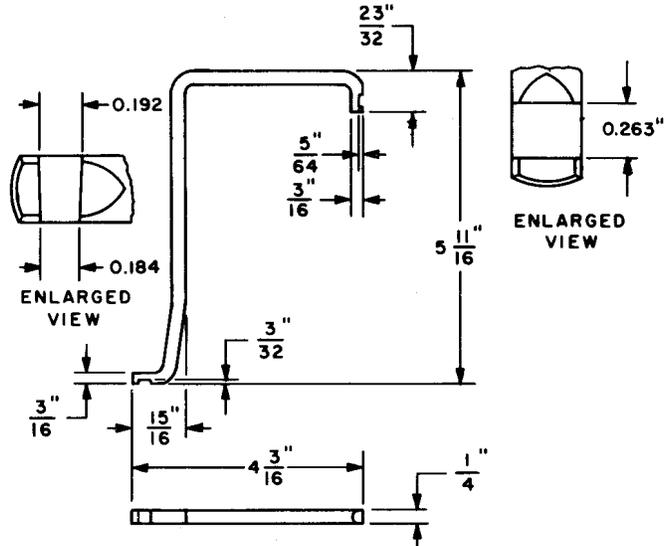

Fig. 16—273 Adjuster Tool
2.16 **273:** The 273 tool (Fig. 16) is an adjuster used in adjusting pawl trip levers and armature stop lugs of clutches on panel clutches, 197- and 198-type switches, and panel multiple banks.